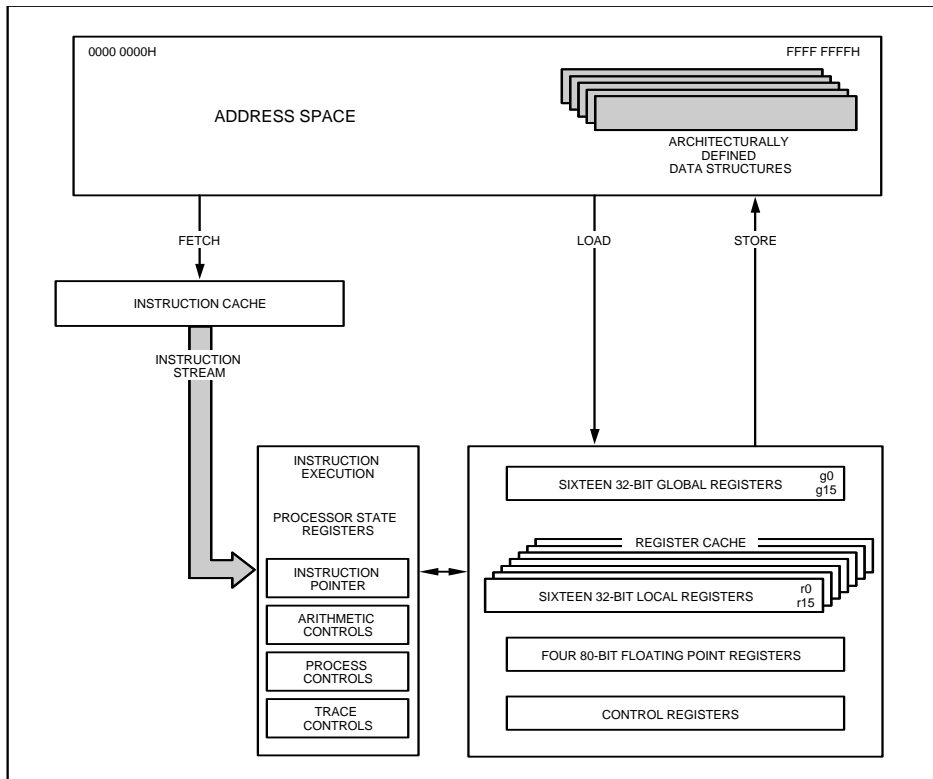

Figure 2. 80960KB Programming Environment
1. **Large Register Set.** Having a large number of registers reduces the number of times that a processor needs to access memory. Modern compilers can take advantage of this feature to optimize execution speed. For maximum flexibility, the 80960KB provides thirty-two 32-bit registers and four 80-bit floating point registers. (See Figure 2.)